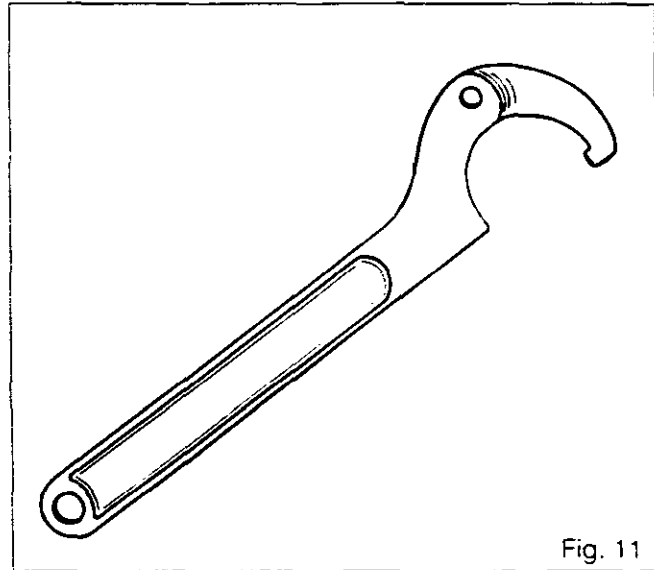

Fig. 11
37. Unlock the nut (1) and untighten it with Facom spanner n° 125-80 or equivalent (Fig. 11).
38. Remove the bevel gear pinion (39) together with the bearing cone (10).
39. **Front axles category 2.5 and 3:** Remove the O-ring (41).
40. Remove the bearing cone (10) of the bevel drive pinion.
41. Remove the cup (9) and the shims [8].